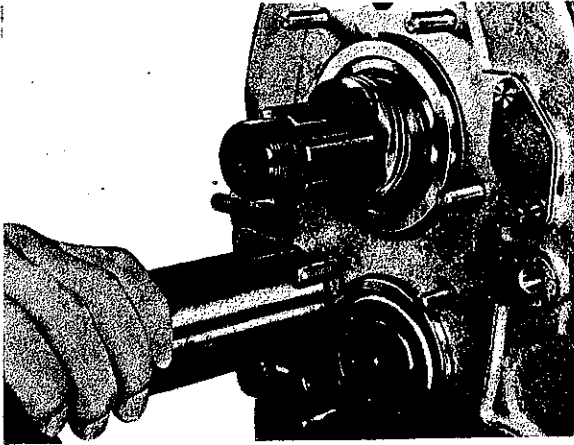

Fig. 6
5.1 Loosen nuts (102) on cover (127) and then remove cover. Pull out reversing shaft (502) with puller .3. (Fig. 6).